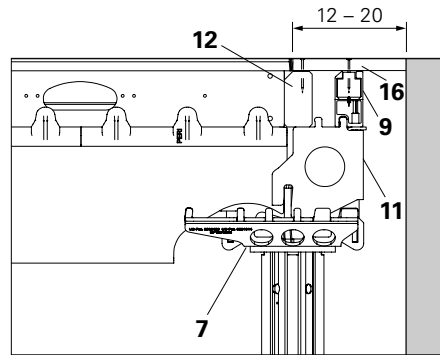

Fig. A5.26
1. Mount Combihead SCK turned by 180° (7) or Prophead SSK in the main beam support.
3. Install formlining and secure in position with nails. (Fig. A5.26 + A5.27)